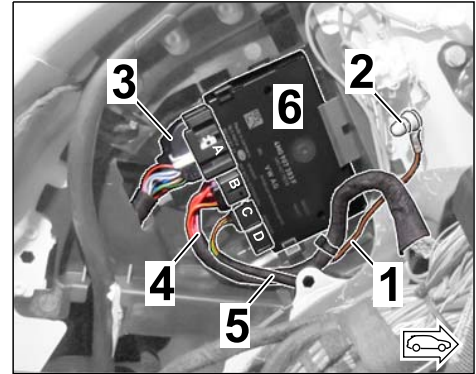

Figure 14
2.6 Connect plug connections for connector A/B/C to the trailer hitch control unit (⇒ *Figure 14*).